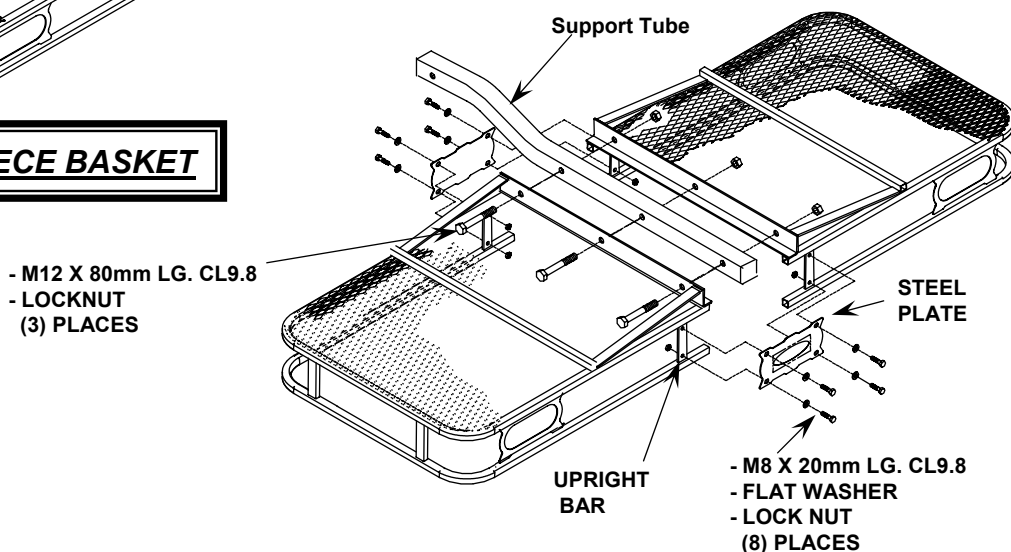

FIG. 2 TWO PIECE BASKETS
- Place tray on a flat surface with the cargo mesh floor facing up as shown. (*Two piece baskets only*: Slide the two halves together and attach the two steel plates to the upright bars with the logo label to the outside as shown using the M8 hex bolts as shown in Figure 2. **Leave these bolts loose at this time!!**)